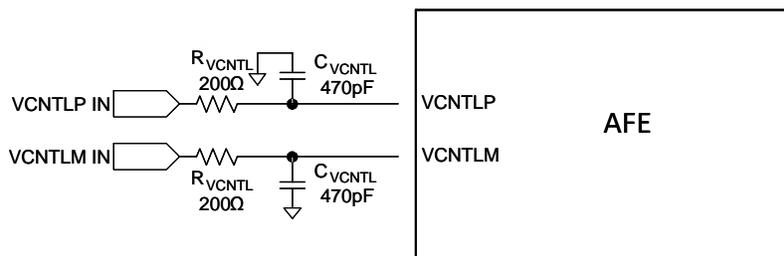

Figure 7. Filtering on V_{CNTLx} Pins
- The AFE5812 gain-control input has a -3 -dB bandwidth of approximately 800 kHz. This wide bandwidth, although useful in many applications (for example, fast V_{CNTL} response), can also allow high-frequency noise to modulate the gain control input and finally affect the Doppler performance. In practice, this modulation can be avoided by additional external filtering (R_{VCNTL} and C_{VCNTL}) at V_{CNTLM} and V_{CNTLP} pins as Figure 7 shows. However, the external filter's cutoff frequency cannot be kept too low as this result in low gain response time.